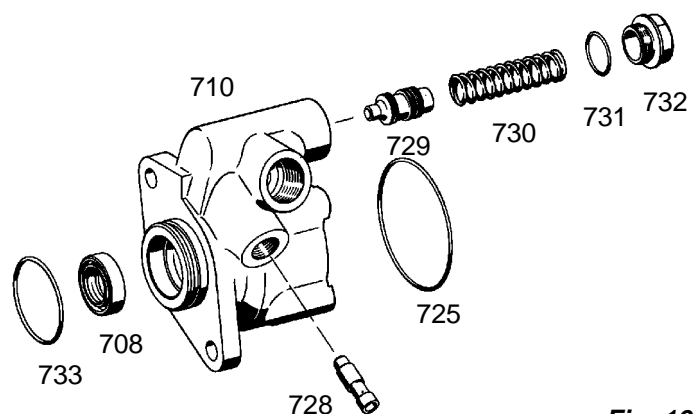

Fig. 16
Remove shaft seal (708), O-ring (725 and 733) (**Fig. 16**).